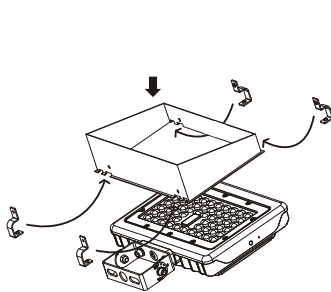

Figure 1
1. Center the visor with the lens, ensure the visor is flush with the fixture. (Figure 1)